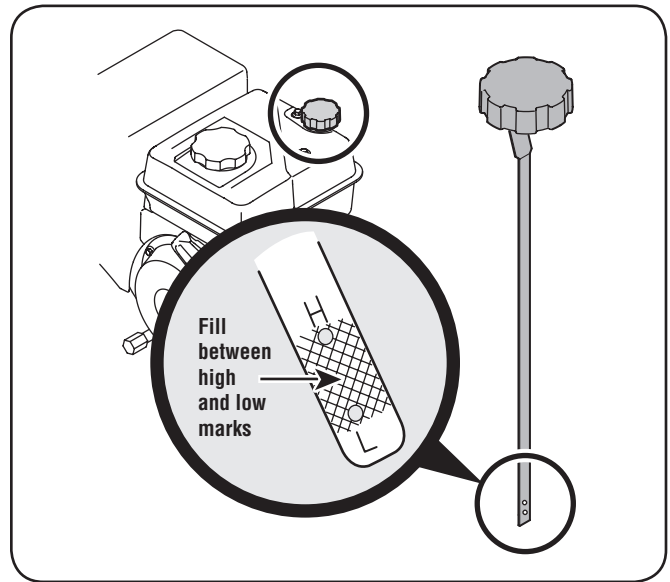

Figure 3-4
- Keep oil level between “H” and “L” marks on dipstick. See Figure 3-4.
1. Remove the oil filler cap/dipstick and wipe the dipstick clean. See Figure 3-4.
3. Remove the oil filler cap/dipstick. If the level is low, slowly add oil until oil level registers between high (H) and low (L), Figure 3-4.